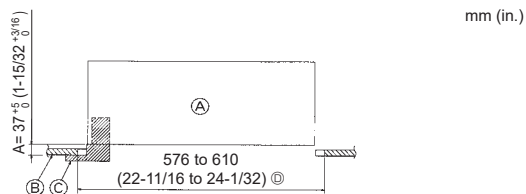

Fig. 5-2
5.3. Preparing to attach the grille (Fig. 5-2)